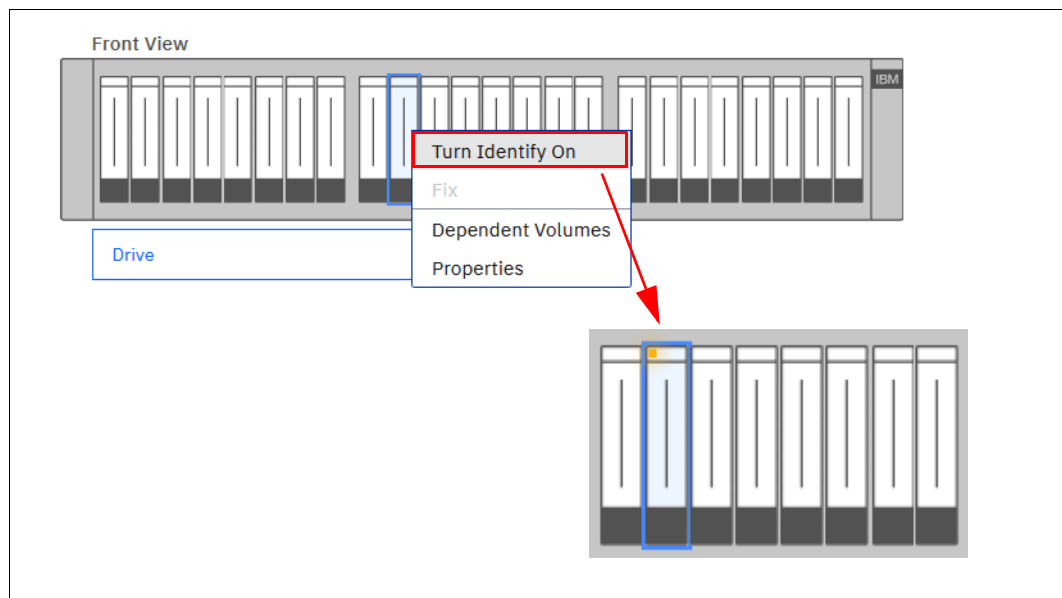

Figure 4-35 Turning on the Identify LED
1. Select the appropriate drive and click **Turn Identify On**, as shown in Figure 4-35.